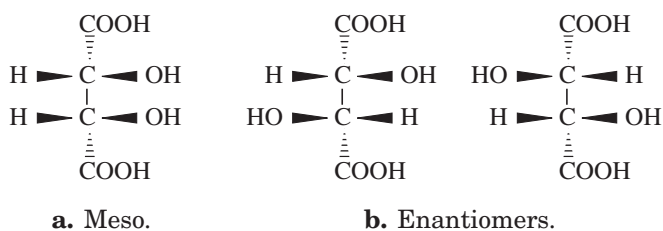

Figure 22.7
each stereoisomer is oriented as in Figure 22.7. In the space provided on the Report Sheet (14), draw each of the corresponding Fischer projections.